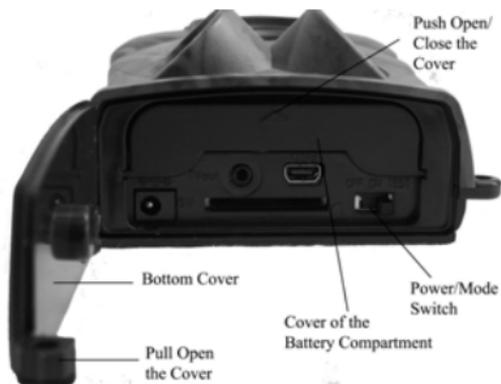

Figure 1.2: Bottom View of Ltl-5310M
- Figure 1.2 shows the bottom view of the camera (Part # Ltl-5310M)